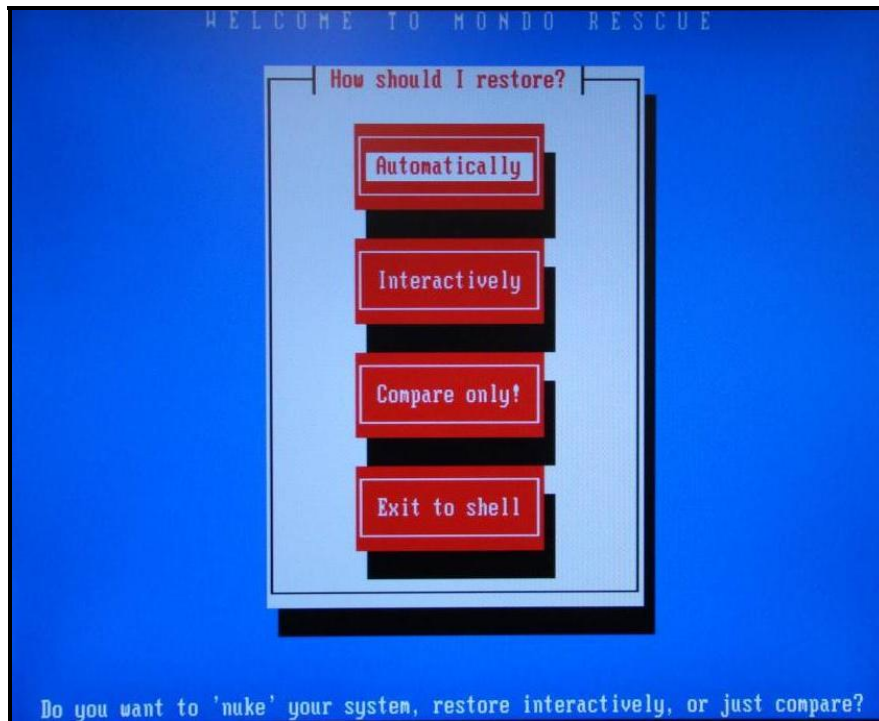

Figure 1: How should I restore? window
- ▶ The **How should I restore?** window opens, as shown in Figure 1.